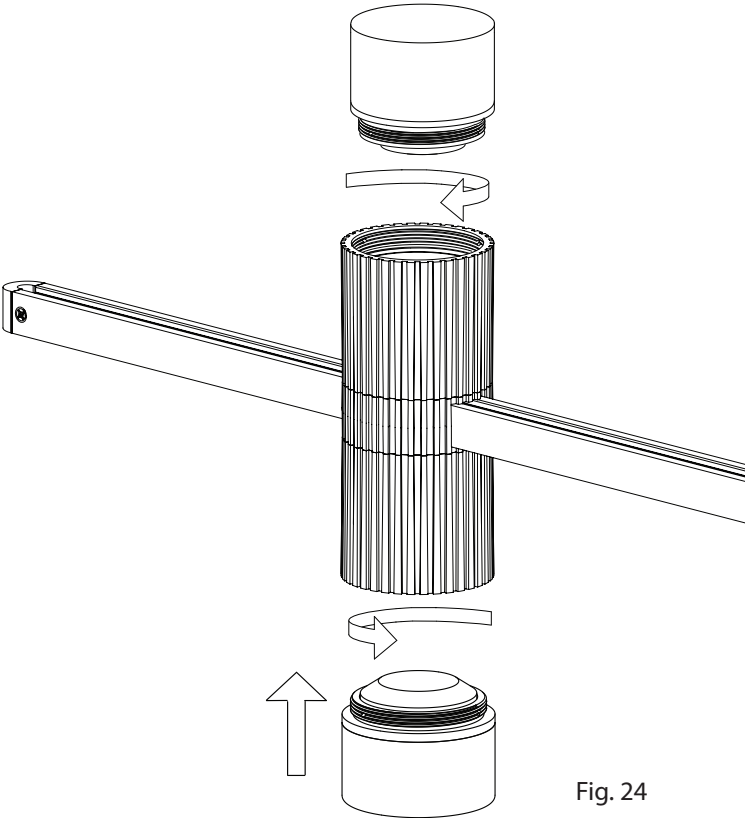

Fig. 24
- 1.) Screw Trim Rings into the top and bottom Cylinder Light Engines. (Fig. 24)
- Glass Drum Diffuser Trim (Fig. 24)